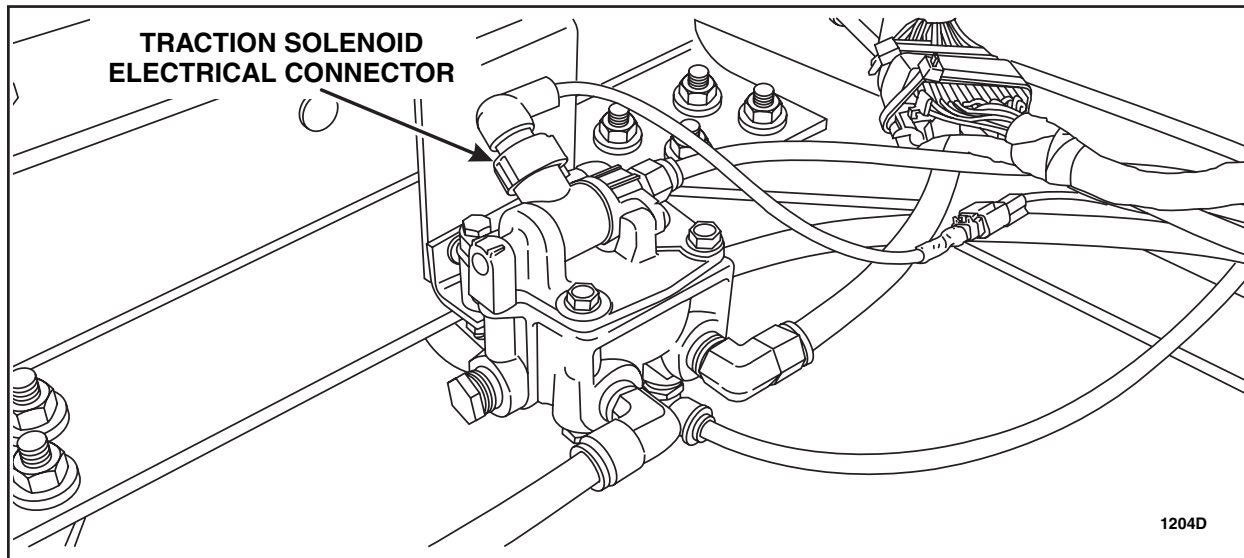

FIGURE 4
4. Disconnect the traction solenoid electrical connector. See Figure 4.
21. Connect the traction control solenoid electrical connector. See Figure 4.